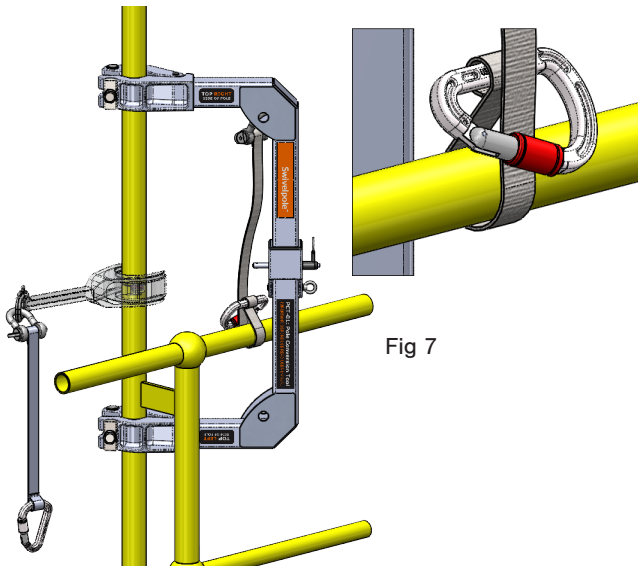

Fig 7
- Second person attaches the lanyard to the guardrail and **securely fasten the safety latch.** (Fig 7)